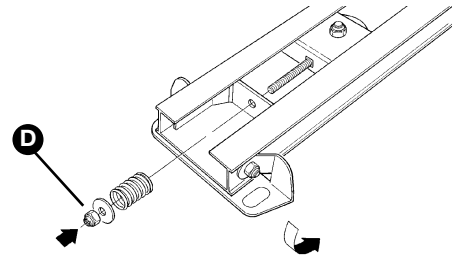

Figure 23
**6** Insert the spring, washer and M8 nut **[D]**, in the screw of the belt tensioner device, as shown in figure 23.